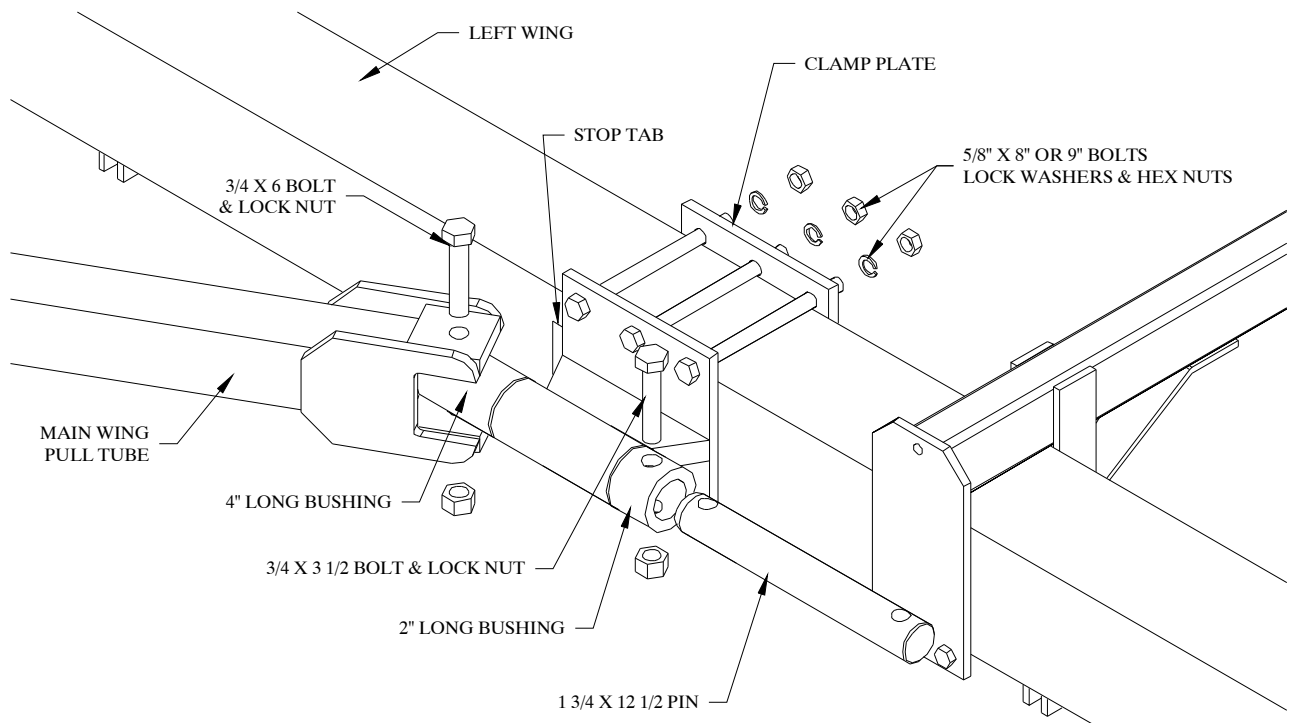

Figure 33
1. Attach the main pull tube anchor assembly to the wing as shown in Figure 33. Be sure the wing is in line with the center bar. Use six 5/8" x 9" bolts, lock washers, hex nuts and a clamp plate. Note: there is a stop tab welded to the wing to prevent the anchor assembly from sliding on the wing.